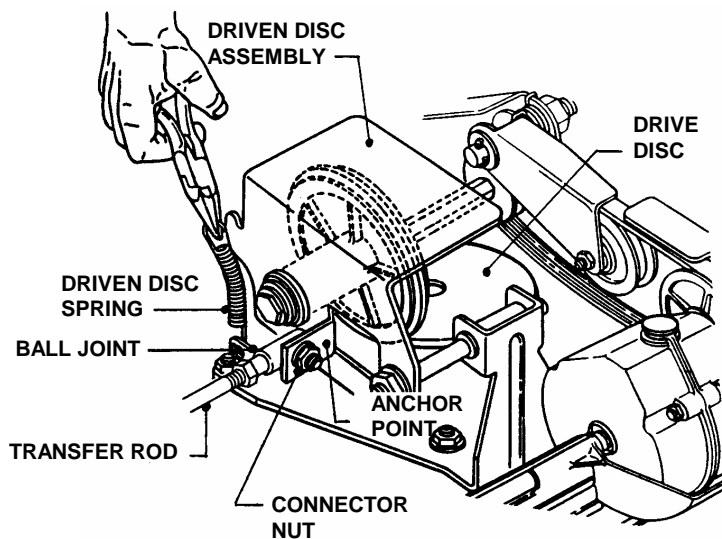

FIGURE 4.8
2. Remove driven disc spring from driven disc assembly. Remove transfer rod connector nut and remove ball joint/transfer rod from driven disc assembly anchor point. See Figure 4.8.